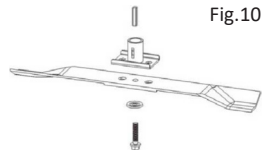

Fig.10
- If you want to replace the cutting blade, remove the bolt (Fig. 10).